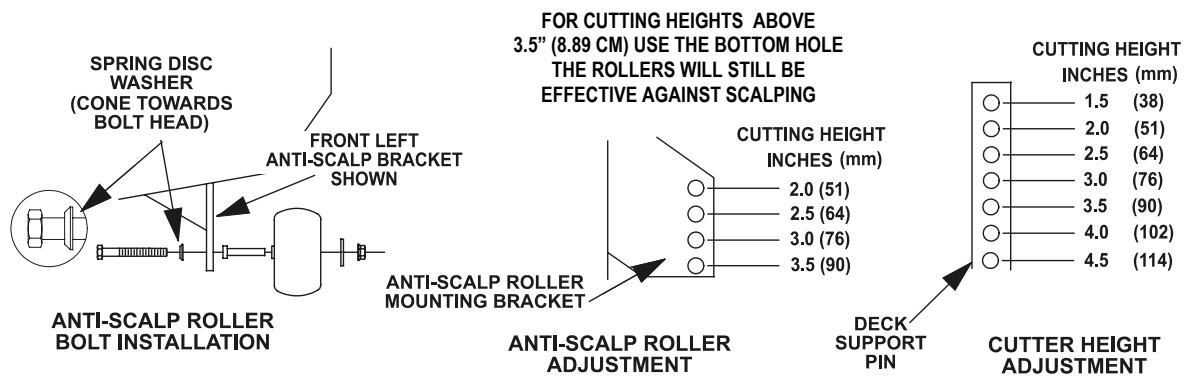

FIGURE 7
- c) Adjust anti-scalp rollers for Normal Operating Conditions. Place rollers in one of the positions shown in Figure 7. Rollers will maintain 3/4 in. (19 mm) clearance to the ground to minimize gouging and roller wear or damage.